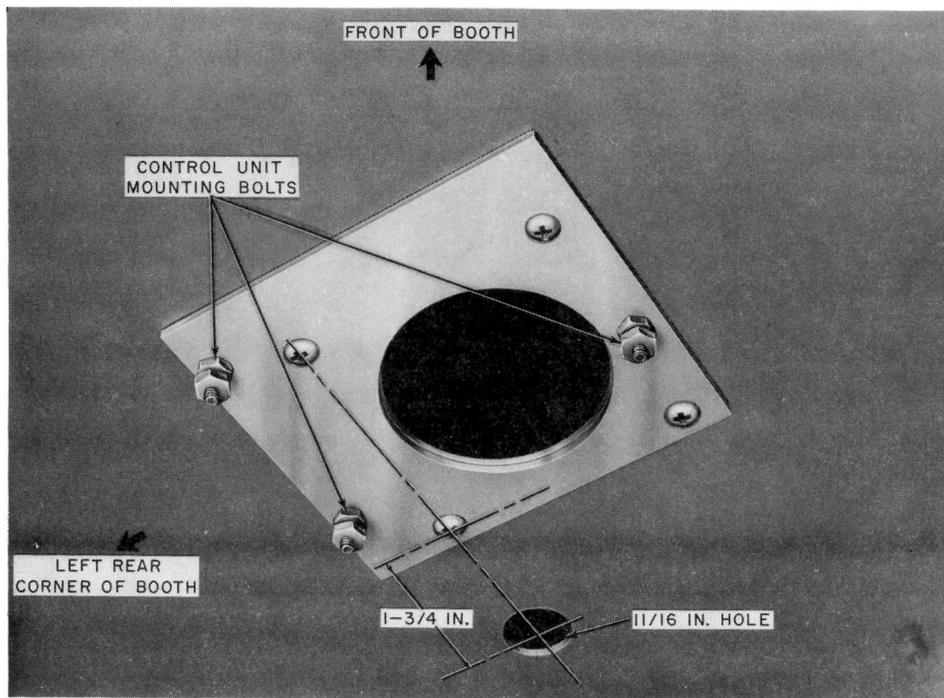

Fig. 20—Installation of Adapter Plate to Ceiling of KS-16797 Booth
- (6) Secure light control adapter plate on ceiling where cord plate was removed (Fig. 20). This adapter plate must be placed with the two control unit mounting bolts toward the left rear corner of booth.
- (7) Locate and drill one 11/16-inch diameter hole in the ceiling as shown in Fig. 20.